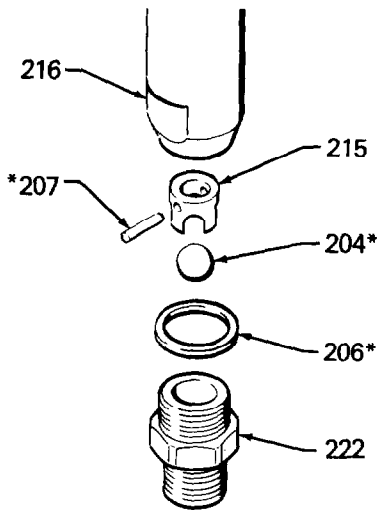
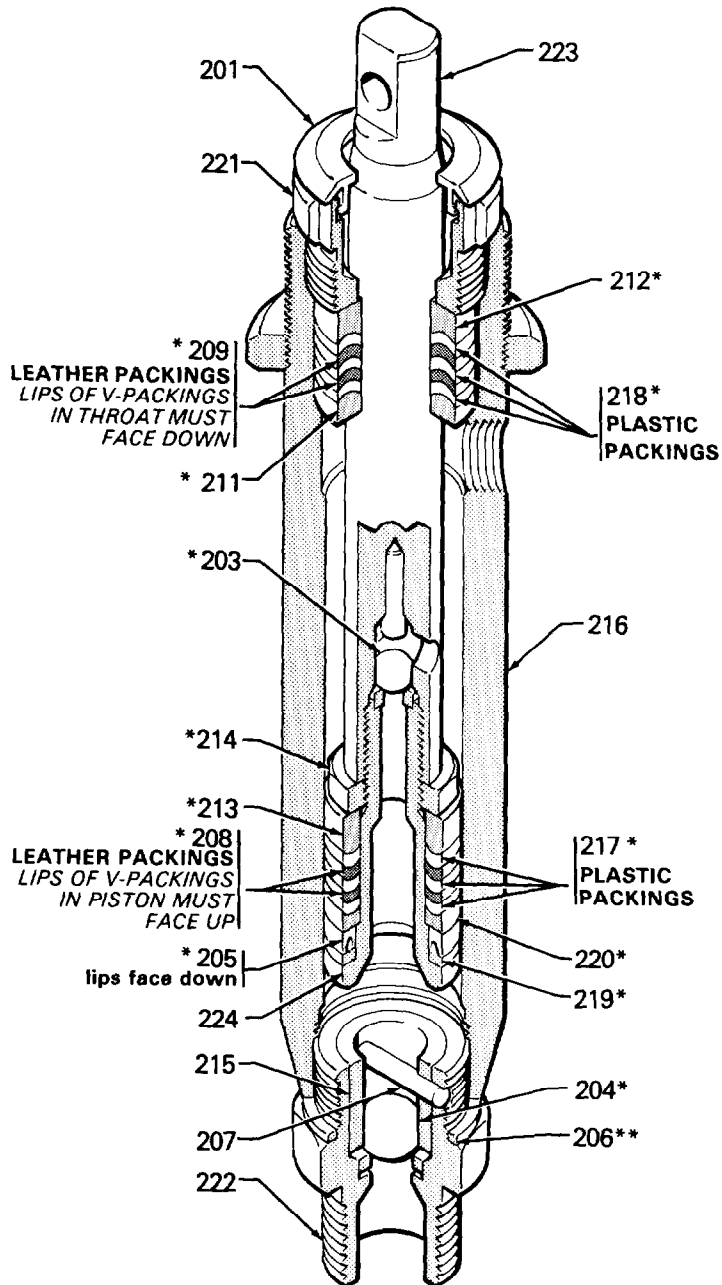

Fig 9
Fig 10
Disassembling the Pump (Refer to Figures 9 and 10.)
- Stack the male gland (211*), packings (218*, 209*) and female gland (212*), one at a time, into the top of the cylinder. See Fig 10.
- Install the throat packing nut (221) and plug (201) but leave loose for now.
- Insert the piston rod (223) through the *bottom* of the pump cylinder, pushing it up until the top of the piston rod extends 1-7/8" (32.2 mm) beyond the top of the cylinder. See Fig 10.
- Screw down the cylinder locknut (38) until it is finger tight at the bottom of the external cylinder threads.
- Place flats of the intake valve in a vise. Install a new gasket (206*) and screw the pump cylinder into the valve. See Fig 9.
- Screw the displacement pump about 3/4 of the way into the bearing housing (27). Hold the pin (20) up to the pin hole in the connecting rod assembly (3) and continue screwing in the pump until the pin slides easily into the hole. Back off the pump until the top threads of the pump cylinder are flush with the face of the bearing housing and the outlet nipple (46) is straight back. Push the retaining spring (35) into the groove all the way around the connecting rod. Tighten the locknut (38) very tight—about 70 ft-lb (94 N·m)—with a 2 in. open-end wrench and a light hammer.